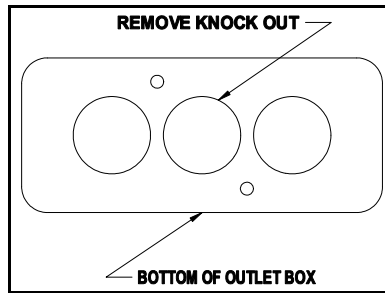
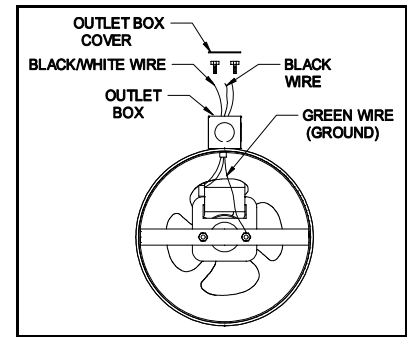

Figure 3A
Figure 3B
4. Remove center knockout from the installer supplied outlet box bottom. (See Figure 3A) Before installing the Air Booster into the duct pipe, fasten the user supplied outlet box onto the unit housing. (See Figure 3B)